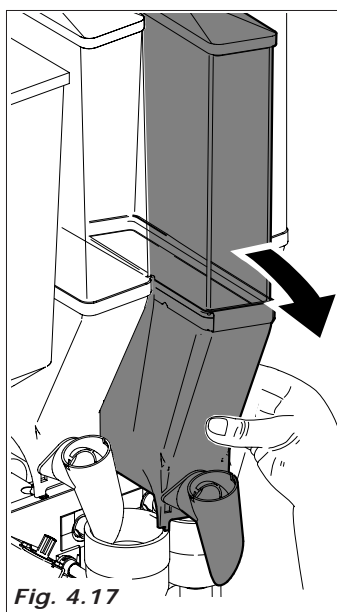

Fig. 4.17
- remove all the product containers from the distributor (Fig.4.17)